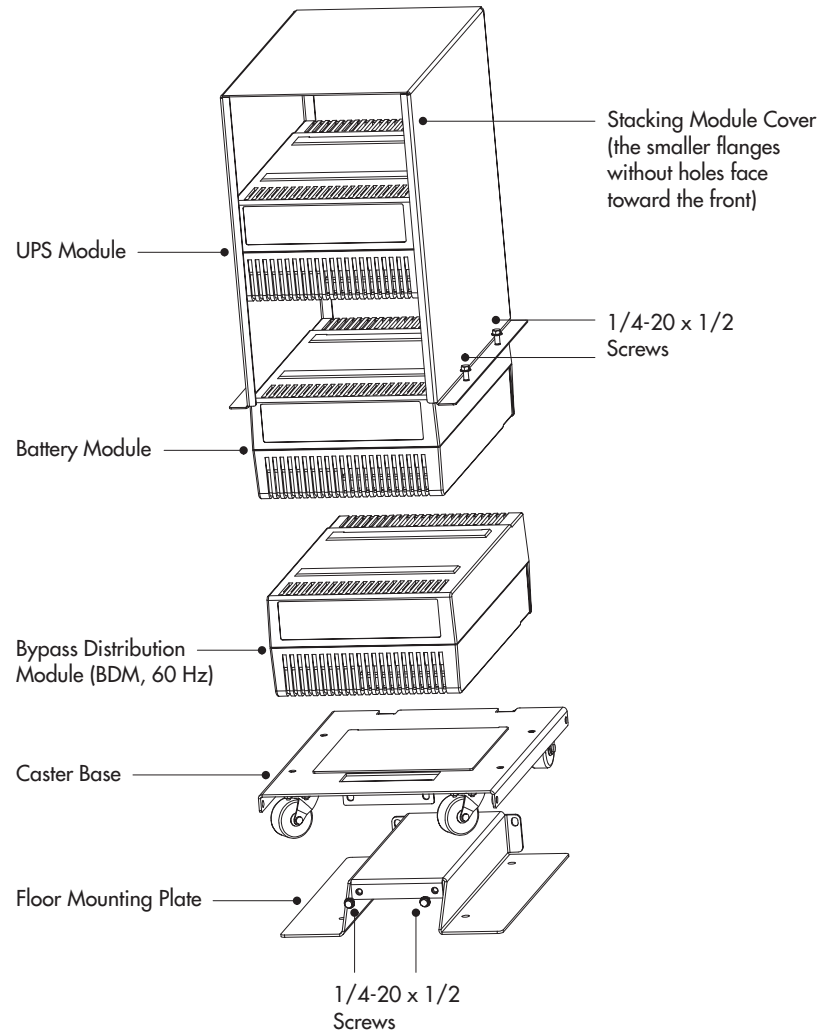

Figure 3. UPS with Distribution Module Setup
Do not place more than three battery modules in one stack. The modules must be stacked in the correct order (Figure 3 shows the Distribution Module and Figure 4 shows the Isolation Module).
- B** Secure the caster base to the mounting plate using four of the 1/4-20 x 1/2 screws provided. See Figure 3 or Figure 4 for part locations.
- 3** Stack the modules onto the caster base according to the stacking order shown in Figure 3 or Figure 4.